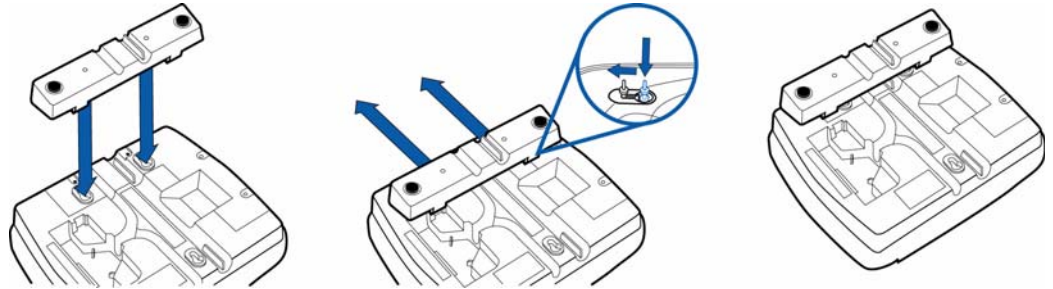

Figure 9 Installing the Countertop Wedge of Omni 7xxxMPD Series
- 1 Align the pins in the countertop wedge with the two key holes on the bottom of the Omni 7xxxMPD series terminal (Figure 9).